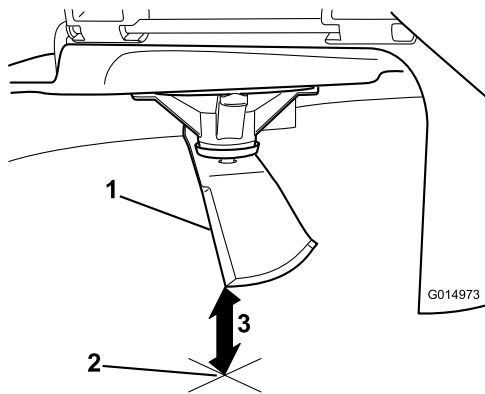

**Figure 76**
4. Rotate the same blade 180 degrees so that the opposing cutting edge is now in the same position (Figure 76).